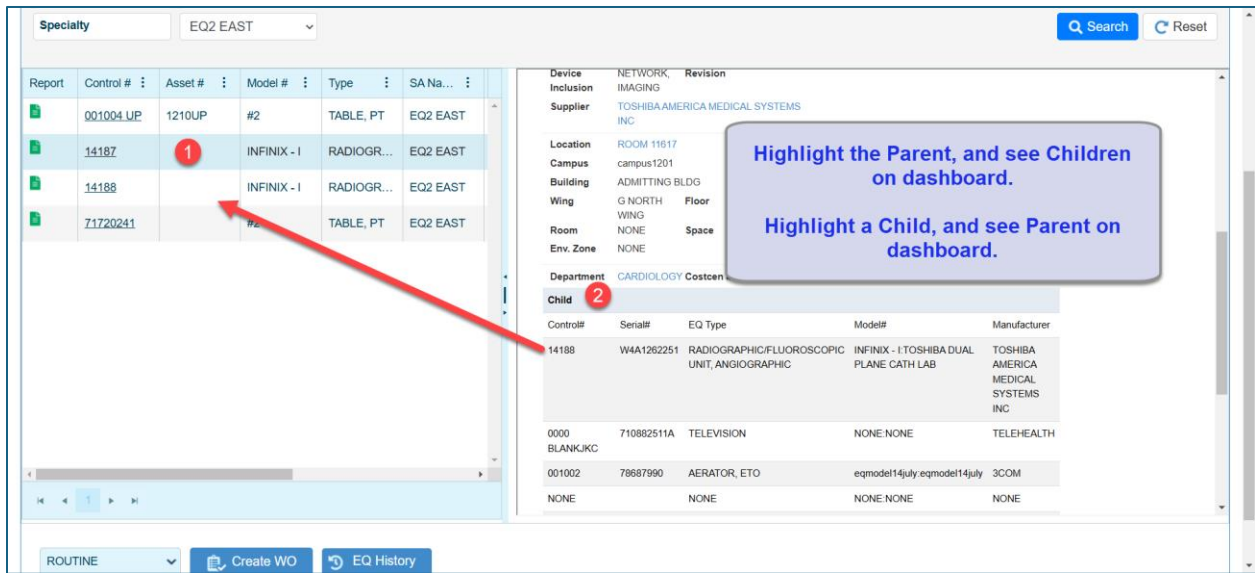

Figure 6 The parent/child hierarchy is displayed on the equipment inventory dashboard.
In fig. 6 above, the parent control number is highlighted (1) and the equipment inventory dashboard displays the child (2) or subcomponents of the system. When a child or subcomponent is highlighted, the parent will be pointed to, and the identifier (2) will be renamed parent.